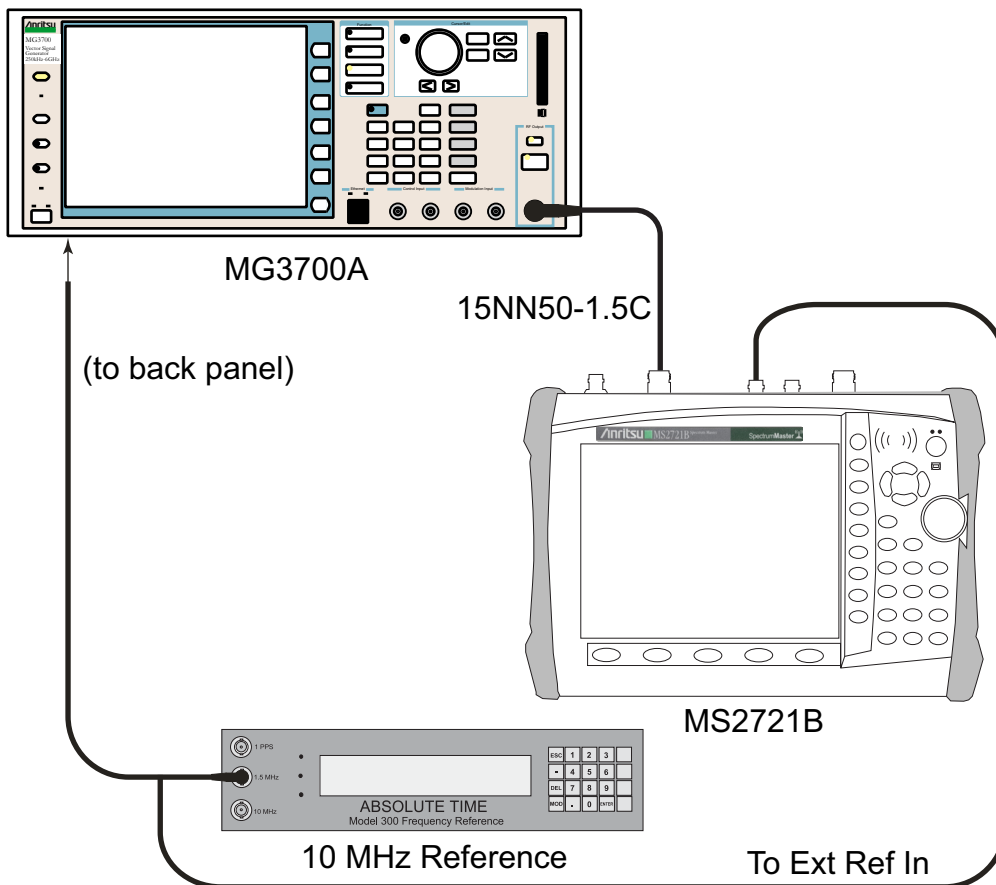

Figure 3-20. DVB-T/H Option 64 and Option 57 – Signal Analyzer Test Setup
1. Connect the 10 MHz External Reference signal into the MG3700A and the MS2721B as shown in Figure 3-20.
1. Connect the 10 MHz Frequency Reference source to the Anritsu MG3700A and MS2721B as shown above in Figure 3-20, “DVB-T/H Option 64 and Option 57 – Signal Analyzer Test Setup” on page 3-74.